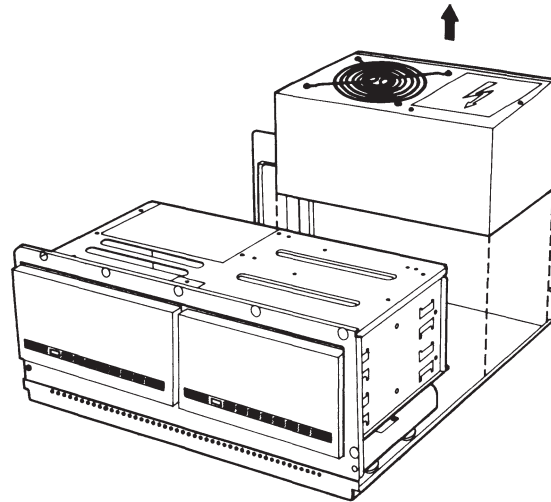

Figure 7-55. Removing the Power Supply Assembly.
3. Slide the power supply $\frac{1}{2}$ -inch to 1-inch toward the drive housing (Figure 7-55). Be sure to clear the tabs on the bottom of the chassis. These tabs hold the power supply assembly in place.